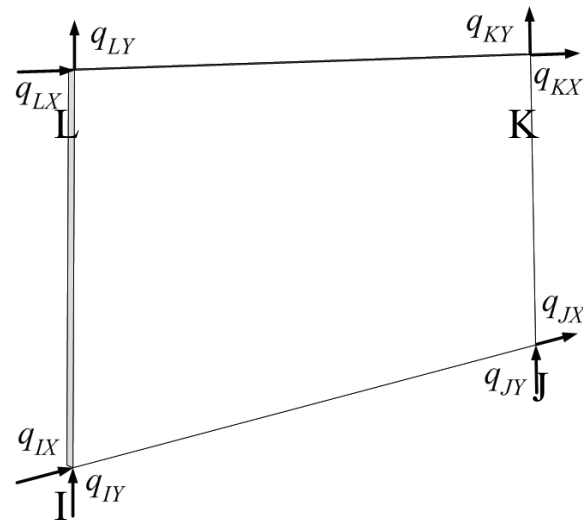

Fig. G13 Local Nodal DOFs of Panel Element
1. See Fig. G13, 5 deformation modes exist in the panel element totally, but only the shear deformation ( $q_5$ ) has nonlinear state while analyzers use an inelastic material in this element. Other 4 deformation modes would keep in the elastic states regardless of the element's material.